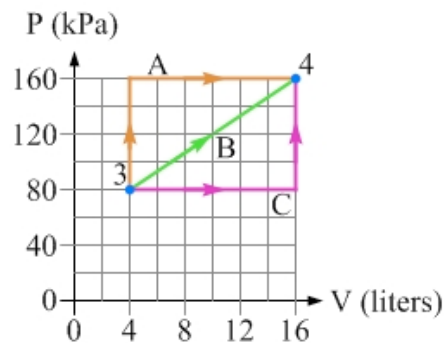

Figure 15.22: A system is taken from state 3 to state 4 by one of three possible paths. For Exercise 2.
- A system of ideal gas can be taken from state 3 to state 4 by three different paths labeled A, B, and C on the P-V diagram in Figure 15.22. Rank these paths based on (a) the work done by the gas; (b) the change in internal energy of the gas; (c) the heat transferred to the gas.